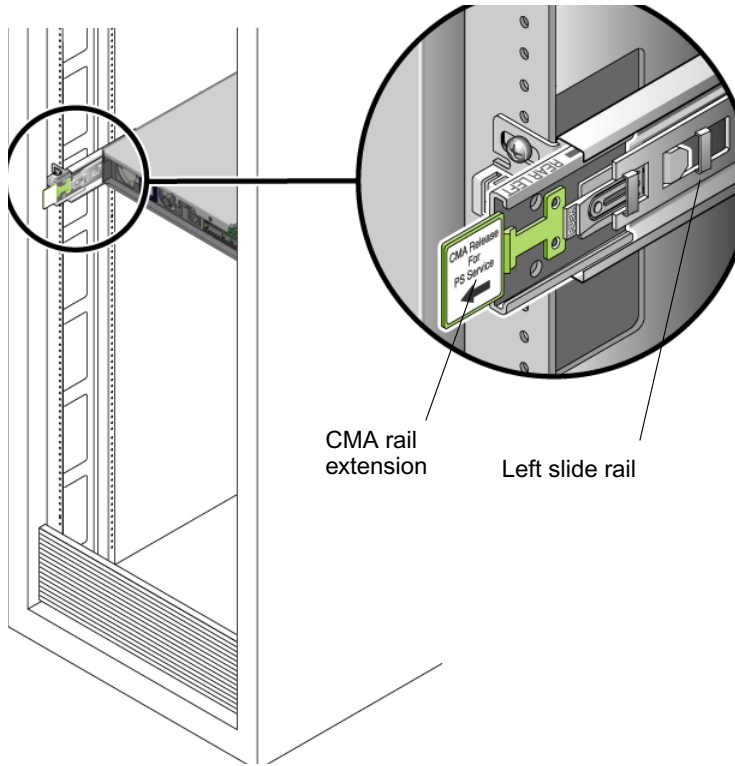

FIGURE C-8 Detail of CMA Rail Extension Inserted Into the Left Slide Rail
4. Verify that the CMA rail extension engages the slide rail, as shown in FIGURE C-8.